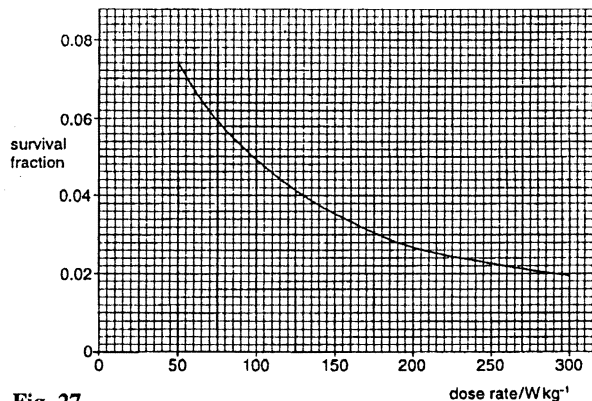

Fig. 27
For any particular absorbed dose, it is found that the survival fraction changes as the dose-rate increases. Fig. 27 shows the variation with dose-rate of the survival fraction for samples of cells in a liquid. The absorbed dose for each sample of cells was 240 kJ kg^{-1} .
- (a) (i) Read off from Fig. 27 the survival fraction for a dose-rate of 200 W kg^{-1} .
The bold line represents the data given in Fig. 27, but with survival fraction plotted on a logarithmic scale.